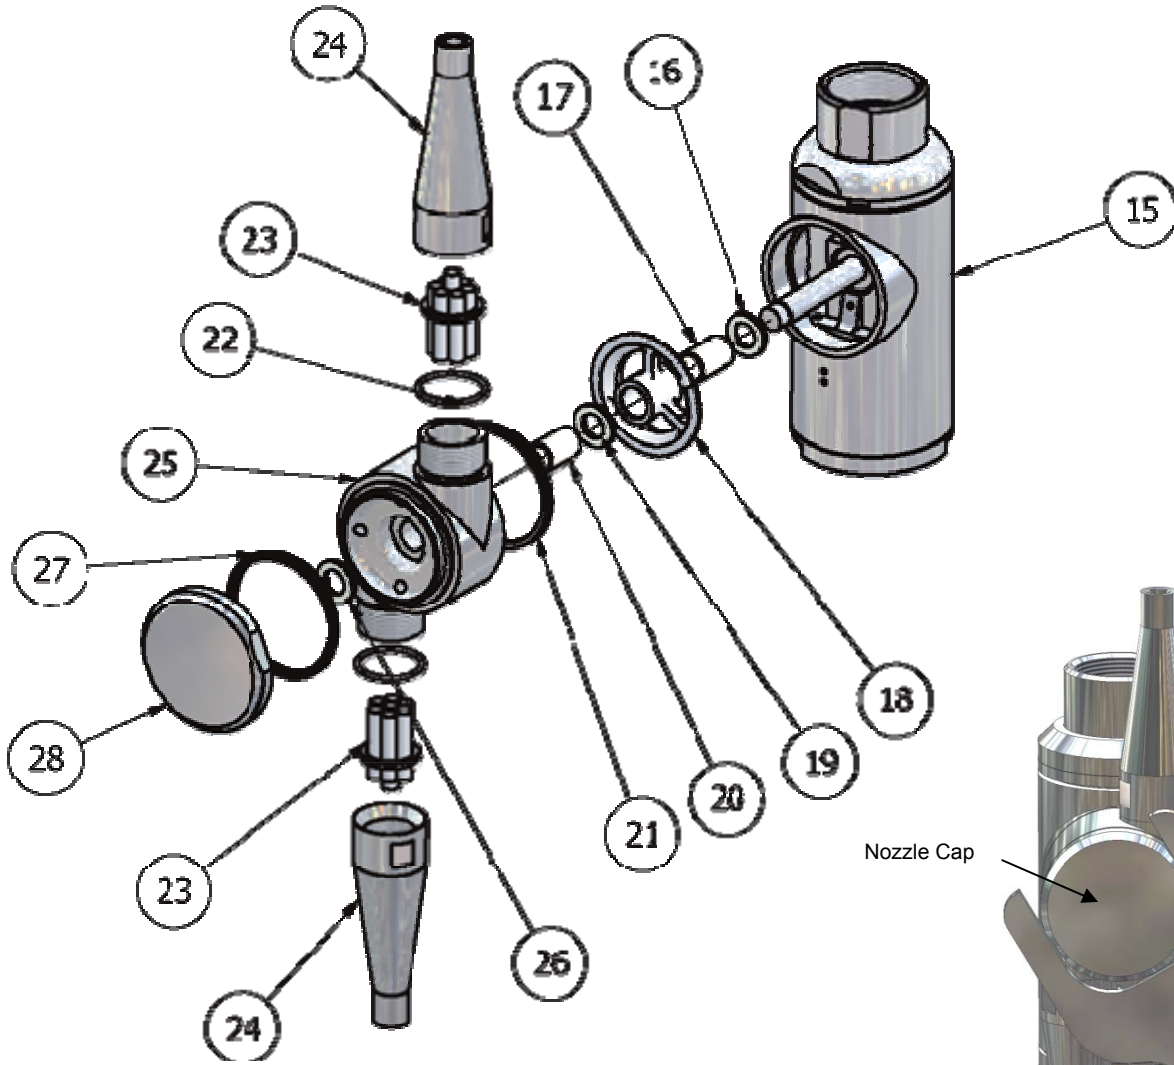

Figure 18
- a. If foreign matter has entered the machine and passed through the body, it may have lodged itself in the bevel gears; position 12.6 and 18. To check these areas refer to Figure 18 for instructions on removal of the hub. Take care to review the gearing and ensure that there is no damage that could prevent operation.